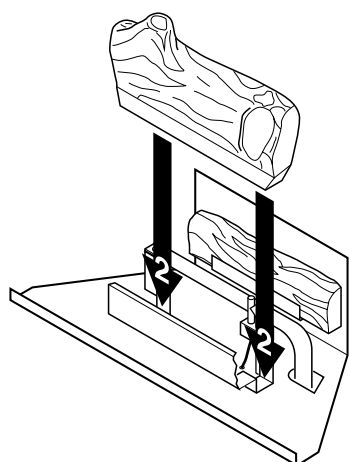

Figure 22 - Installing Log No. 2
- Place log #2 (large front log) in groove on firebox floor in front of burner with log texture facing up and out (see Figure 22).